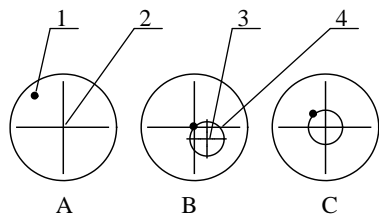

Figure 6
- 2) Focus on one target in the field of view, adjust it to the center of view, see Figure 6 A.